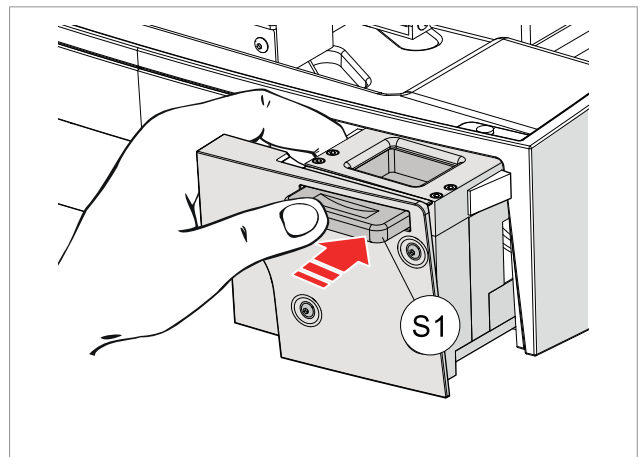

Fig. 74
- 1) Pull the photo reader unit (S) out all the way.
- 2) Hold the unit firmly with one hand and push the handle (S1) (Fig. 74).